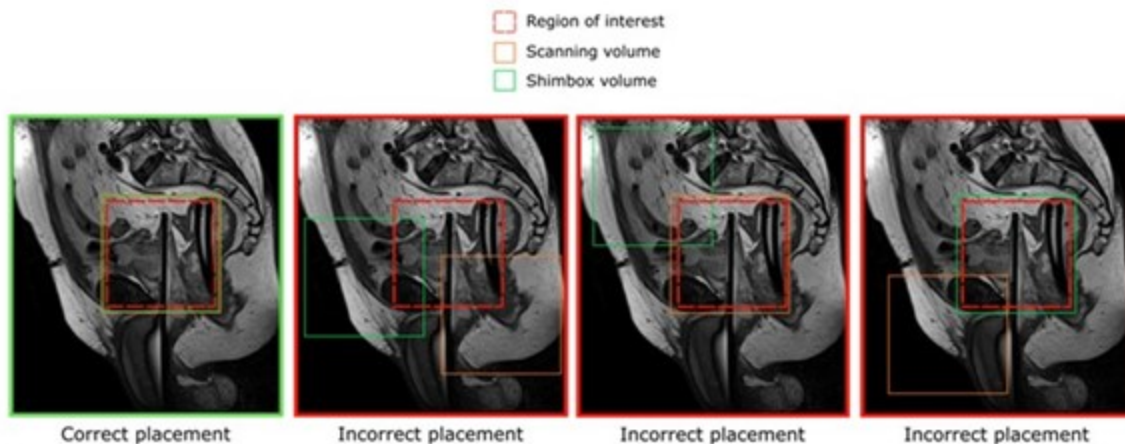

Figure 36: Examples of correct and incorrect placements of the shim box
1. **MRI Technologist:** Open AX THERM for editing in the Offc/Ang tab, change the AP, RL, and FH values for both Stack Offc. and Ang (*Figure 37*). to match those in TDC. Do the same for the shim volume. If the shim volume includes more than just the patient anatomy (e.g. air), reduce the size of the shim box (*Figure 36*).